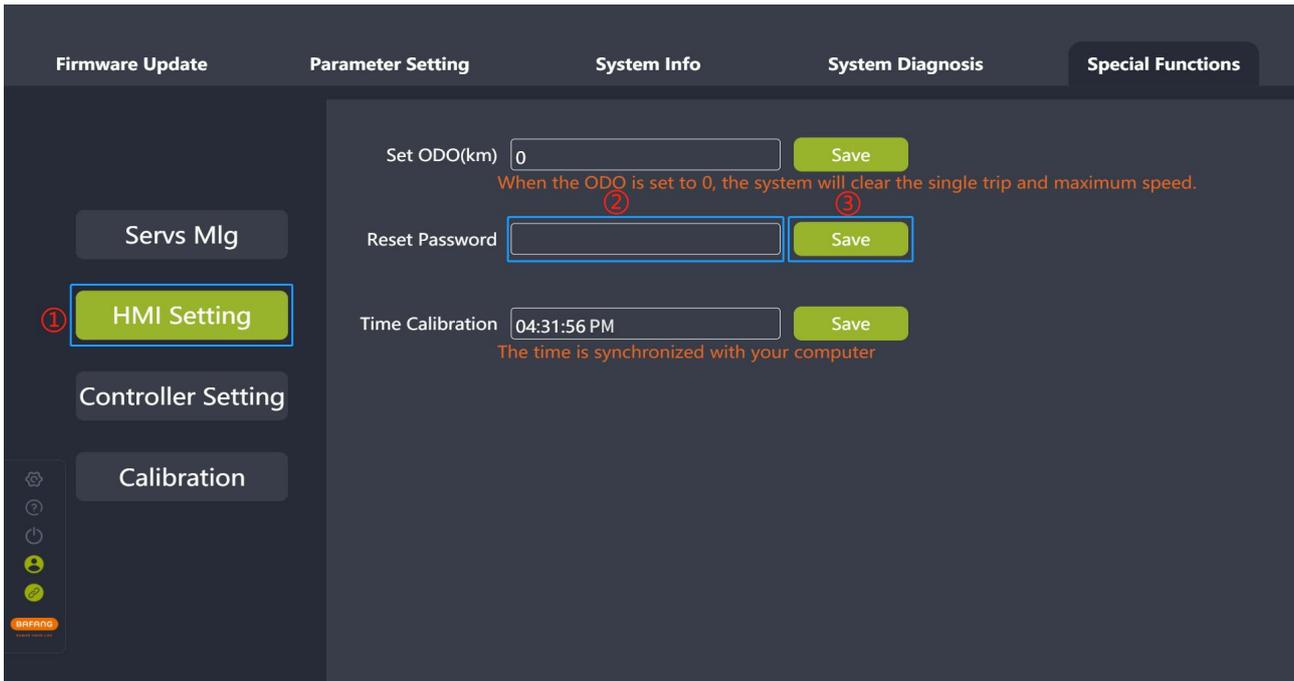

Fig. 8-5 Reset the power-on password
- (1) Connect the BESST Tool to the HMI (if supports) and select "HMI Setting".
- (2) Enter the new 4-digit password into the "Reset Password" box.
- (3) Click "Save", and the password will be reset successfully (Fig. 8-5).